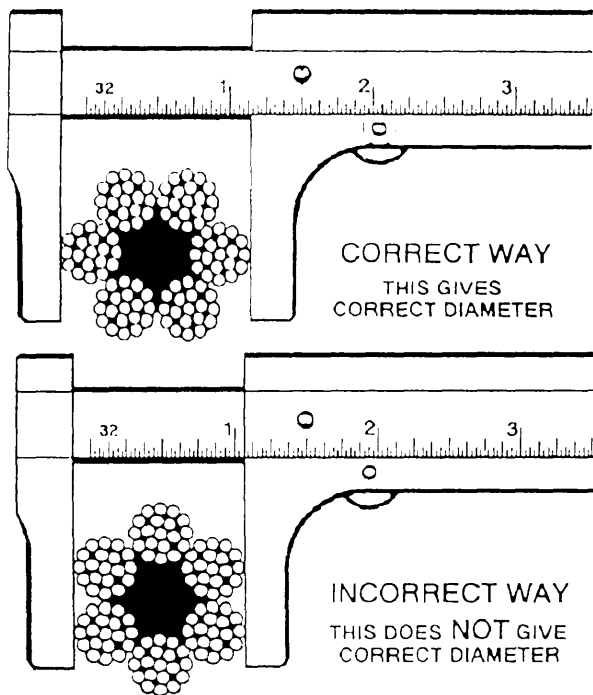

Figure 12-37.—Measuring wire rope.
5. Wire rope wear. Measure wire rope with wire rope calipers (fig. 12-37) to check for wear accurately. Replace wire rope that has wear of one third of the original diameter of outside individual wires. A crescent wrench can be used as an expedient means to measure wire rope.